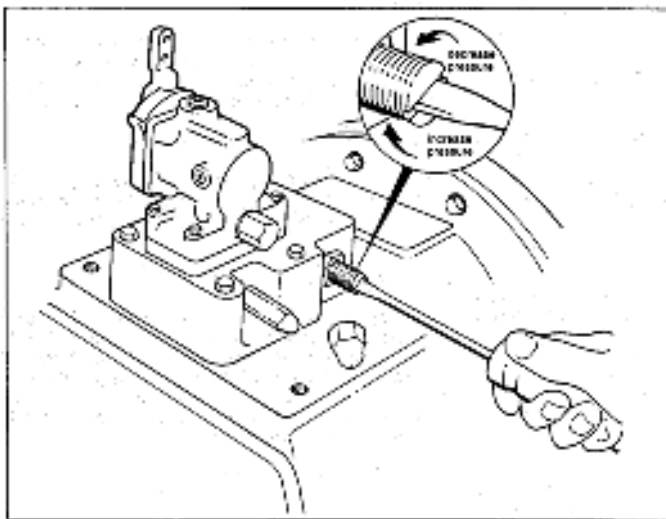

Fig. 17. Adjustment of oil pressure
Normally, unit pressure at idle start-up will be 180 PSI, but final adjustments must be made as noted above. See figure 17 below.
See fig. 17, page 10.
At periodic intervals record pressure readings at idle speed, a gradual decline is normal. Readjust pressure relief valve to maintain proper operating pressures. See fig. 17, p.10.
6. Oil too hot	Refer to oil pump section (page 17) or fig. 17, p.10.
1. Incorrectly adjusted pump assembly.	1. Refer to fig.17, p. 10